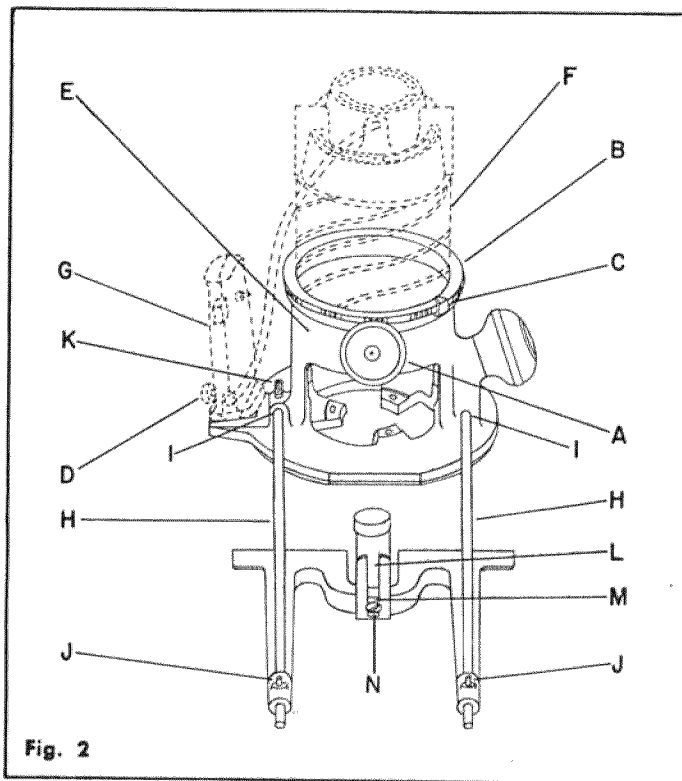

Fig. 2
**TO ASSEMBLE MOTOR UNIT TO BASE**—Align slot in adjusting ring (B), Fig. 2 with slot in base (E). Insert motor unit (F) into base, with pin located in side of motor unit engaging slot in adjusting ring. Lower motor unit in slot until it bottoms. Then turn adjusting ring in a counterclockwise rotation to further lower motor unit. Attach motor unit handle by sliding onto base dovetail and tightening locking screw (D).
**TO REMOVE MOTOR UNIT FROM BASE**—The motor may be removed by loosening motor locking screw and turning adjusting ring (B) in a clockwise direction until motor reaches its highest position. Motor may then be lifted from base. When returning motor to base, make sure that slot in adjusting ring is aligned with slot in base. The switch and handle assembly may be removed by loosening locking screw (D) Fig. 2 and sliding handle out.
**TO ADJUST FOR DEPTH OF CUT**—Be sure that motor unit is turned off. Place the Router on a flat surface and loosen motor unit locking screw (A) Fig. 2. Turn Router adjusting ring (B) in a counterclockwise direction, lowering the motor unit until the cutter just touches the surface. Set adjusting ring indicator (C) at zero. Move router until cutter is clear of the edge of the work, then turn adjusting ring to lower cutter to desired depth according to graduations on ring. Tighten motor unit locking screw securely. Each graduation on ring equals approx. 1/64" vertical movement of cutter.